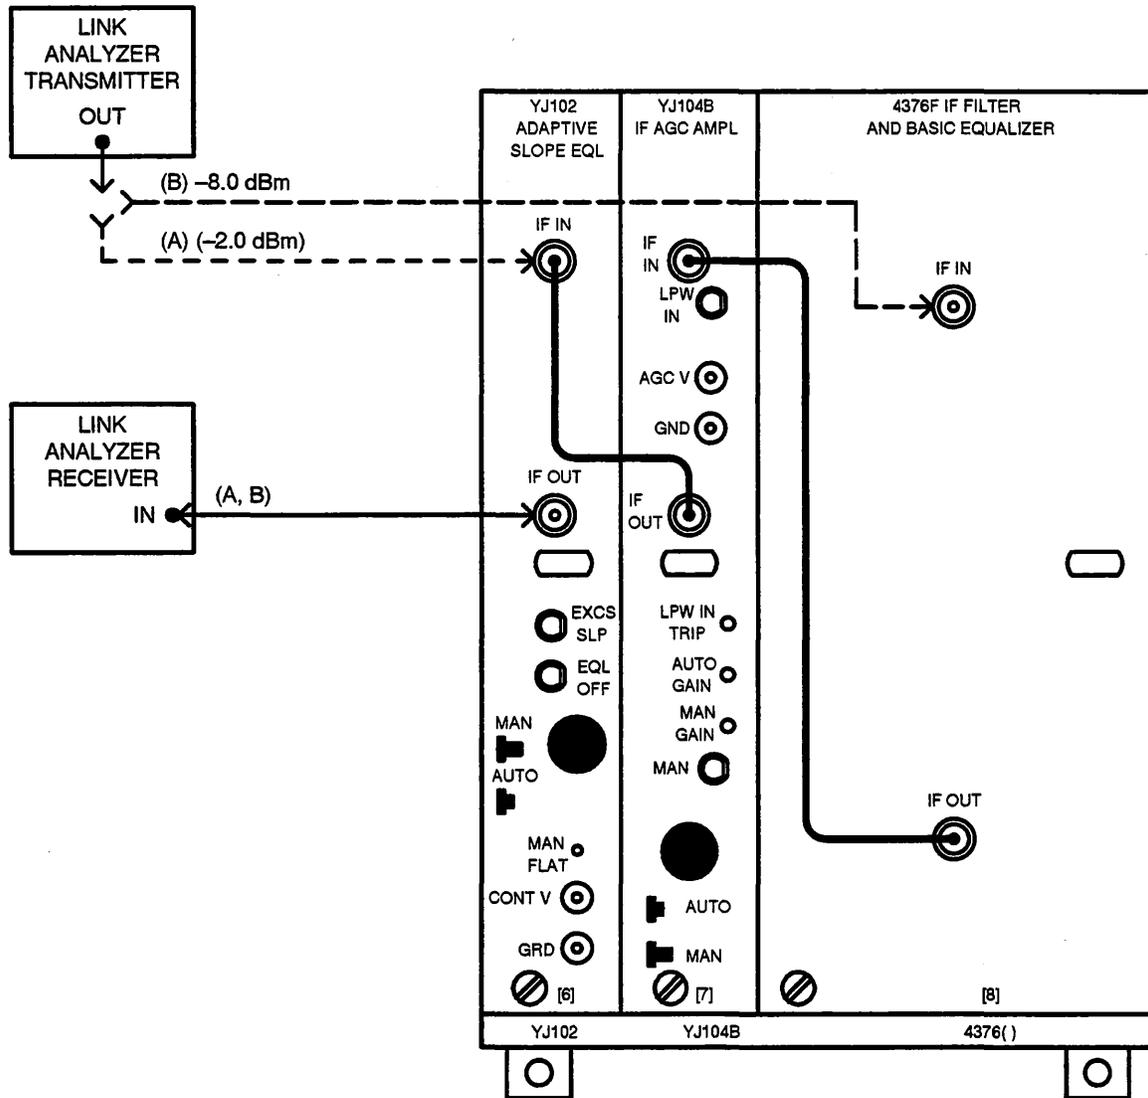

Figure 13- Adaptive Slope Equalizer Checks
- Refer to Figure 13.
5. Connect the test equipment per Figure 13, Option A.
9. Connect the test equipment per Figure 13, Option B.